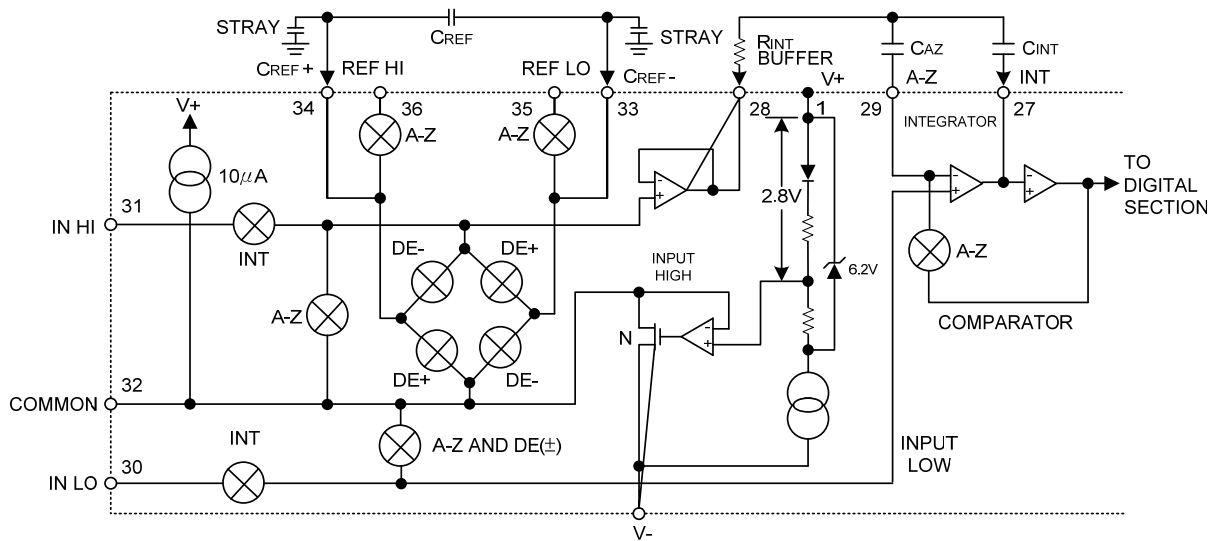

Figure 1. Analog Section
■ ELECTRICAL CHARACTERISTICS (Ta=25°C, f_{CLOCK}=48kHz, measured by the circuit of Figure 1.)
Figure 1 shows the Analog Section for the UTC **7106**. Each measurement cycle is divided into three phases. They are (1) auto-zero(A-Z), (2)signal integrate (INT)and (3)de-integrate(DE).